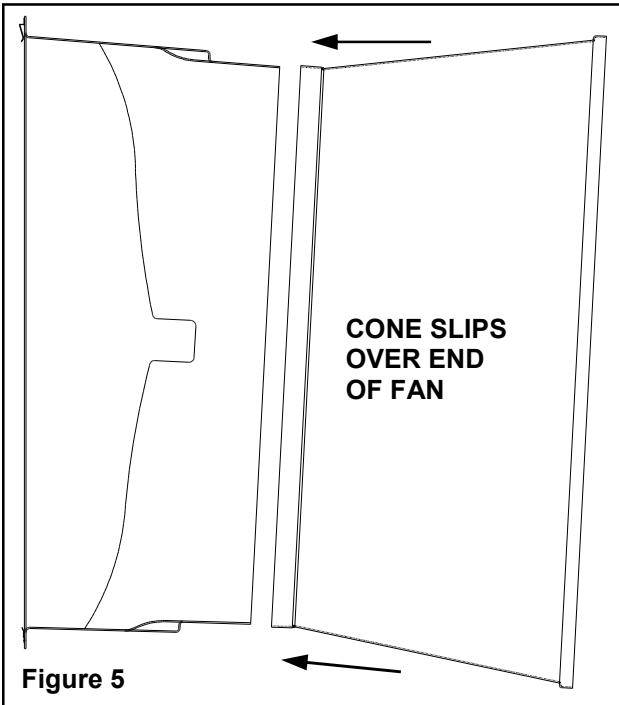
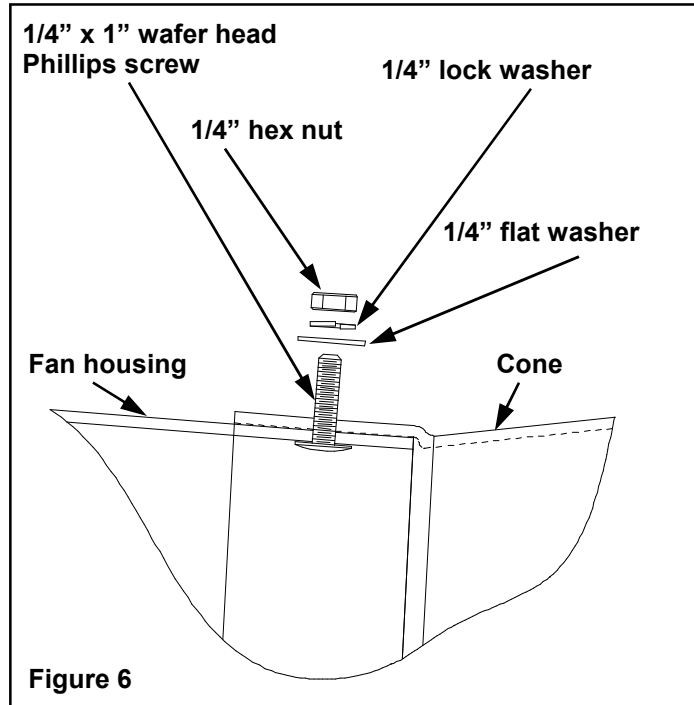
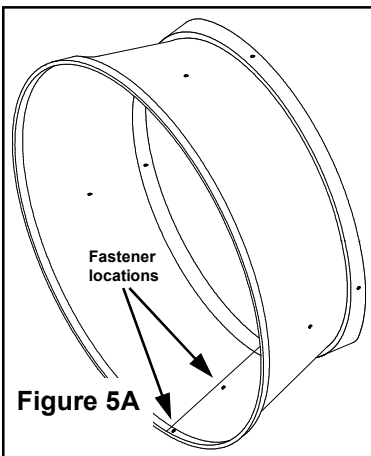

Figure 5
Figure 6
Figure 5A
The one piece cone is tapered at the inlet end so it will fit snugly over the fan housing. Fasten the cone at the overlap with two (2) 1/4" x 1" hex head bolts, flat washers, lock washer and nut, only finger tight for now. See Figure 5A. Rotate cone while pushing it against the fan to line up the pre-drilled holes, and it will slide over the fan. See Figure 5. Fasten the cone to the fan housing with four (4) 1/4" x 1" wafer head Phillips screws, pushing the screws from inside the fan, through the fan housing and through the cone. Then, secure the cone to the fan housing on each screw with a flat washer, lock washer and hex nut. See Figure 6. Now, you can tighten all the hardware.